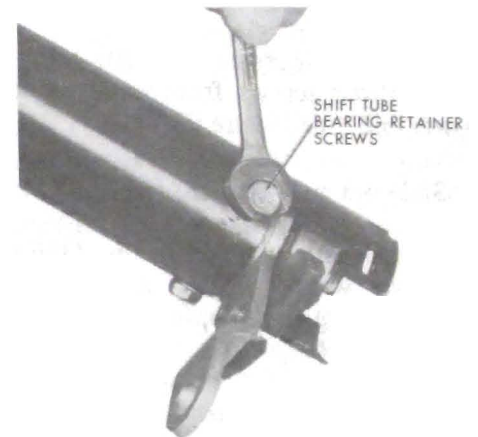

Figure 90-118 Removing Screws from Shift Tube Bearing-Manual Transmission
5. (Manual Transmission Only) Remove three screws from bearing at lower end. See Figure 90-118.
3. (Manual Transmission Only) Loosely attach three screws in jacket and shift tube bearing. See Figure 90-118.